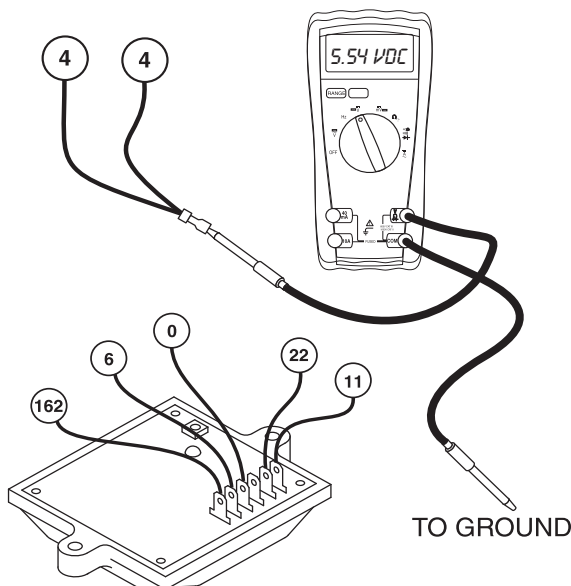

Figure 4. Field Boost Test Points
1. Disconnect Wire 4 from the voltage regulator, third terminal from the top (see Figure 4).
5. Crank the engine while observing the VOM reading. While the engine is cranking, the VOM should read approximately 4-6 Volts DC. When engine is not cranking, VOM should indicate “zero” volts (see Figure 4).